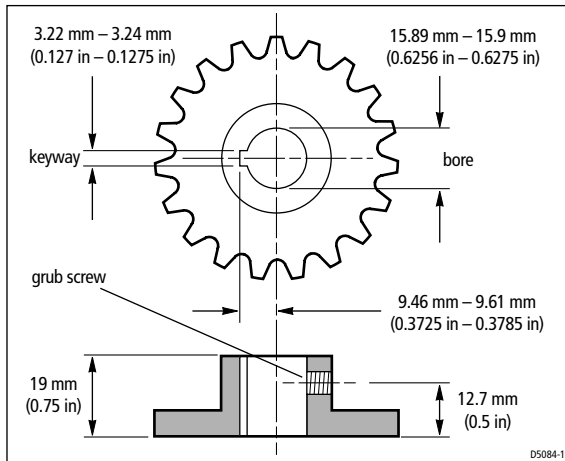

Figure 4: Sprocket bore and keyway dimensions
**To stop the drive sprocket rotating on the drive shaft, the shaft has a  $\frac{1}{8}$  inch square projection (a woodruff key) that fits into a notch (or keyway) at the centre of the sprocket. If you use a non-Raymarine drive sprocket, its bore and keyway dimensions must fall within the ranges specified in *Figure 4* for it to lock correctly to the drive shaft.**